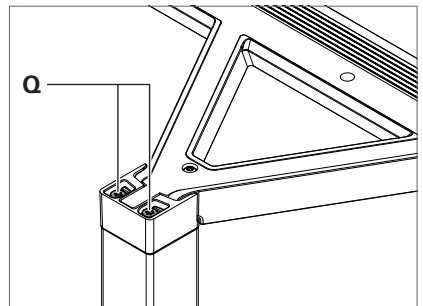

Fig. 11: Adjusting the luminaire head.
- ▶ To lower the luminaire head, turn the screws **Q** anti-clockwise, see Fig. 11.